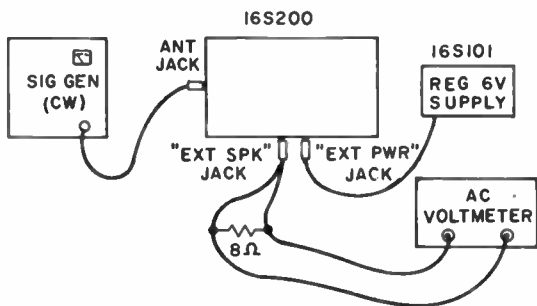

Figure 3—Test setup for RF Alignment and Sensitivity Measurement
1. Connect the test equipment as shown in Figure 3.
1. Connect the test equipment as shown in Fig. 3.